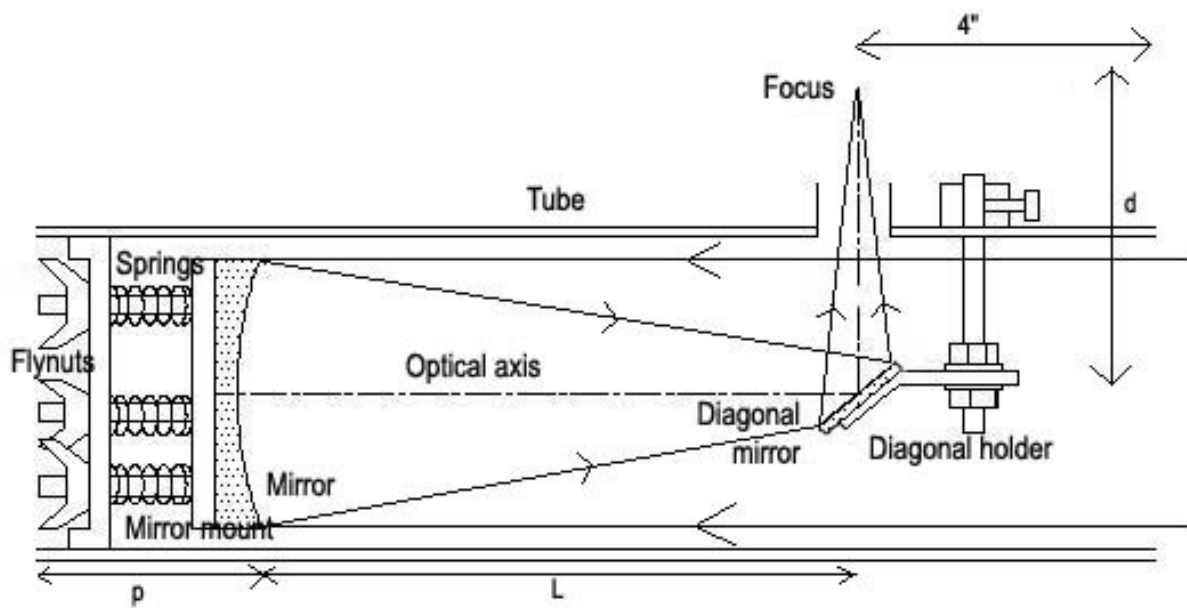

Fig.2
2. Measure the height of the drawtube. Add half of the diameter of the main tube and a little extra distance with that. This is the distance (d) between the diagonal and the focal plane of your mirror (Fig 2).